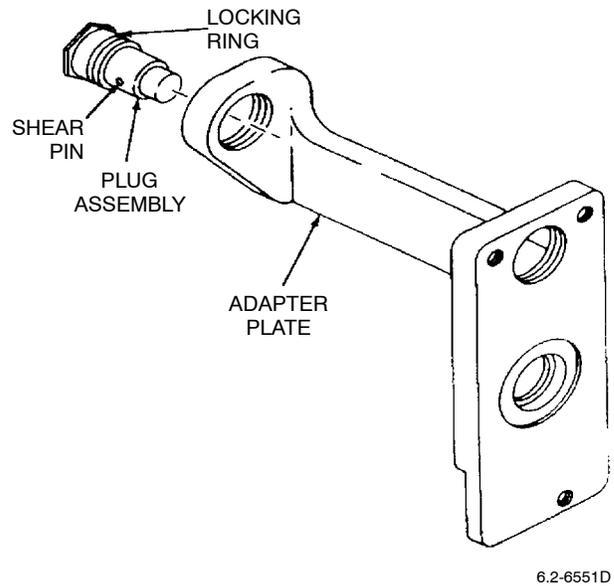

Figure 6. Trial Fit Plug Finger Tight
e. Trial fit plug by screwing finger tight into small arm of adapter plate until thread locking ring contacts adapter plate (Figure 6).